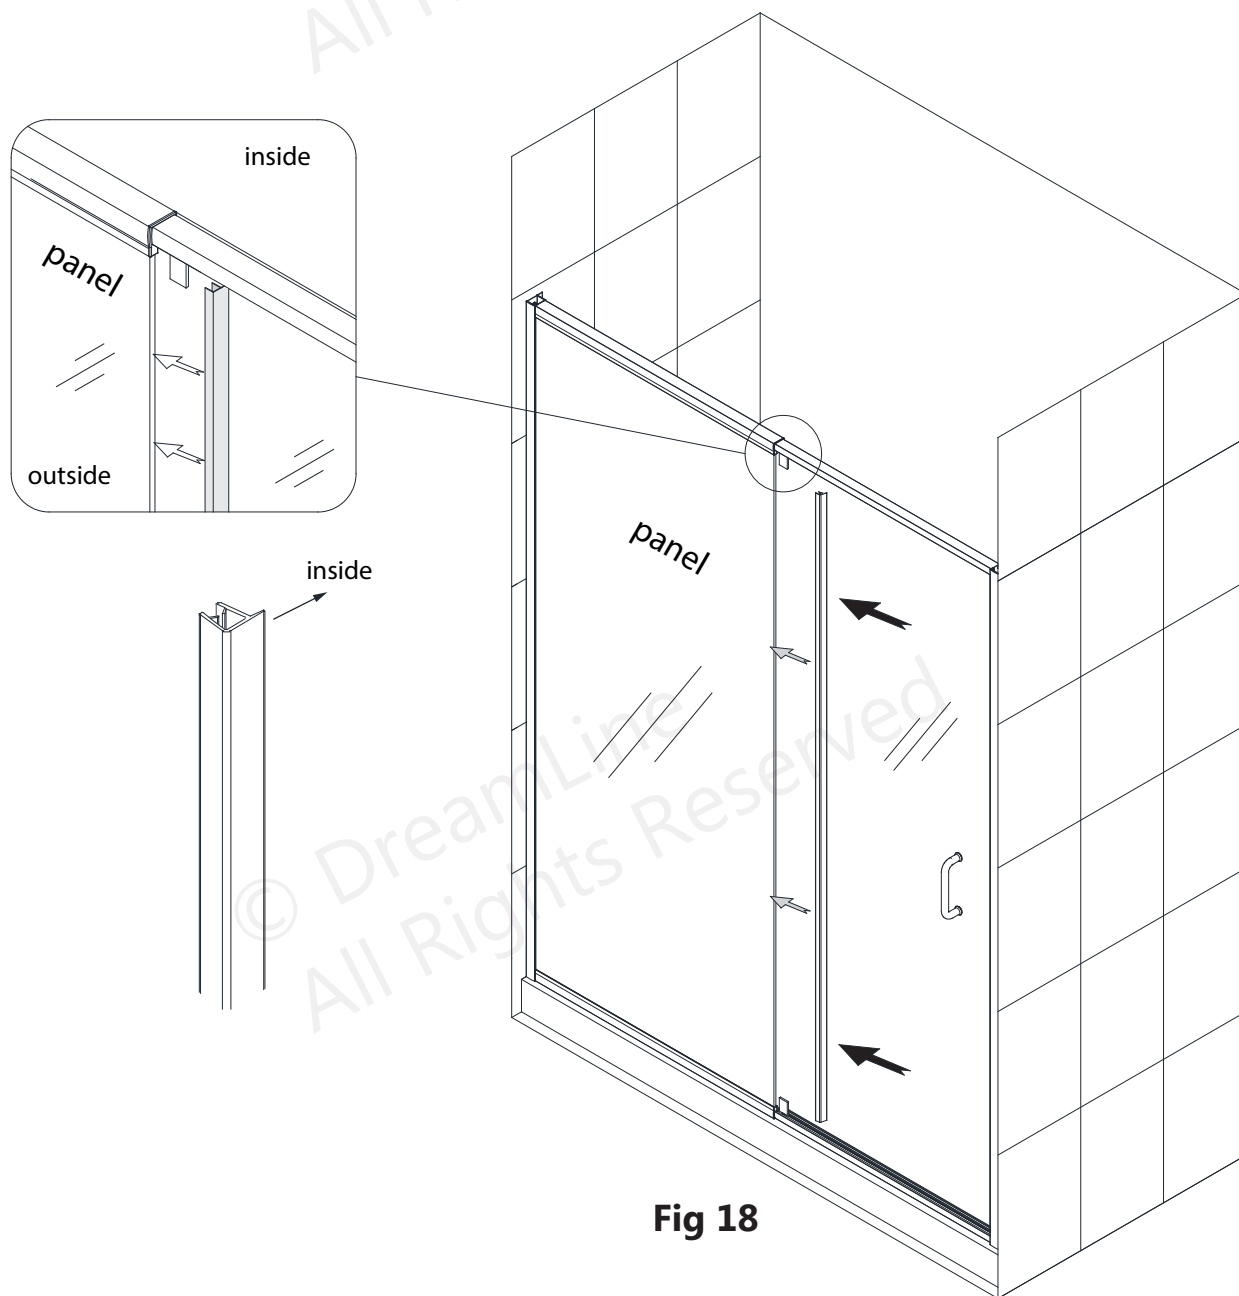

Fig 18
18. Attach the **Vinyl Seal with Flexible Fin (#07)** to the vertical edge of the **Stationary Panel Glass (#02)** with the flange facing into the shower. **(Fig 18)**